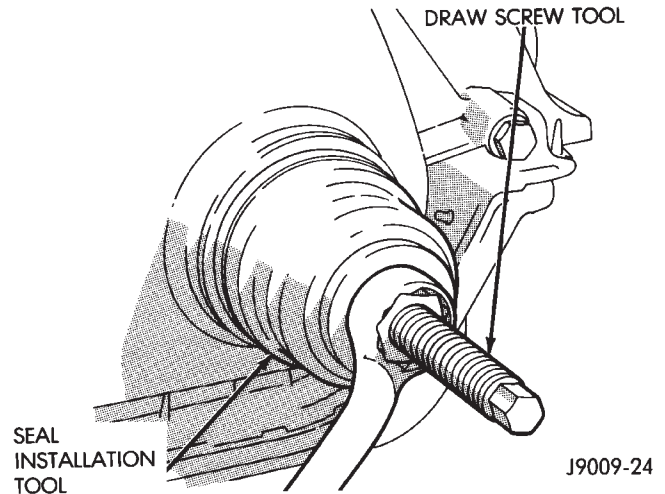

Fig. 60 Timing Case Cover Oil Seal Installation
- (1) Position the replacement oil seal on Timing Case Cover Alignment and Seal Installation Tool 6139 with seal open end facing inward. Apply a light film of Perfect Seal, or equivalent, on the outside diameter of the seal. Lightly coat the crankshaft with engine oil.
- (2) Position the tool and seal over the end of the crankshaft and insert a draw screw tool into Seal Installation Tool 6139 (Fig. 60). Tighten the nut against the tool until it contacts the cover.
- (3) Remove the tools. Apply a light film of engine oil on the vibration damper hub contact surface of the seal.